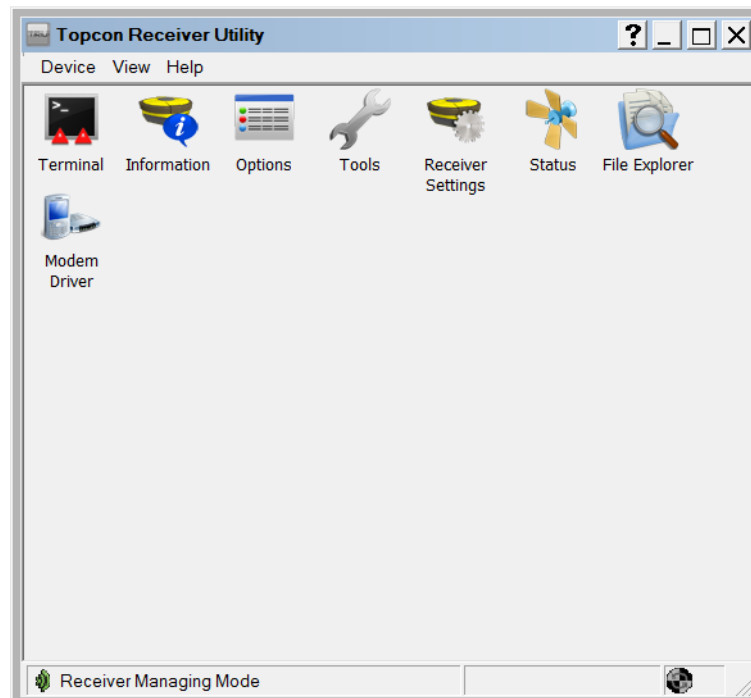

Figure 16: TRU – Main Screen
4. To start TRU, double-click the shortcut, or select it from the Start menu. The TRU main screen appears (Figure 16).